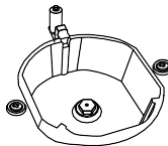
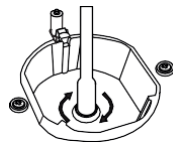

Figure 4
Figure 5
2. Please remove nozzle (figure 4) from burner with special nozzle driver and install new nozzle (figure 5).